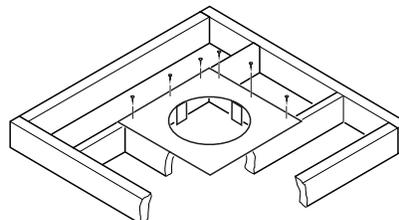

**Figure 21 - Offset with Wall Strap and 45° Elbows**
1. Determine the route your vertical venting will take. If ceiling joists, roof rafters, or other framing will obstruct the venting system, consider an offset (see Figure 21) to avoid cutting load bearing members. *Note:* Pay special attention to these installation instructions for required clearances (air space) to combustibles when passing through ceilings, walls, roofs, enclosures, attic rafters, etc. Do not pack air spaces with insulation. Also note maximum vertical rise of the venting system and any maximum horizontal offset limitations. Offsets must fall within the parameters shown in Figure 8 on page 6.
*Note:* If an offset is needed to avoid obstructions, you must support the vent pipe every 3 feet. Use wall straps for this purpose (see Figure 21). Whenever possible, use 45° elbows instead of 90° elbows. The 45° elbow offers less restriction to the flow of the flue gases and intake air.
5. Place the flashing over the pipe section(s) extending through the roof. Secure the base of the flashing to the roof and framing with roofing nails. Be sure roofing material overlaps the top edge of the flashing as shown in Figure 21. There must be a 1" clearance from the vent pipe to combustible materials.